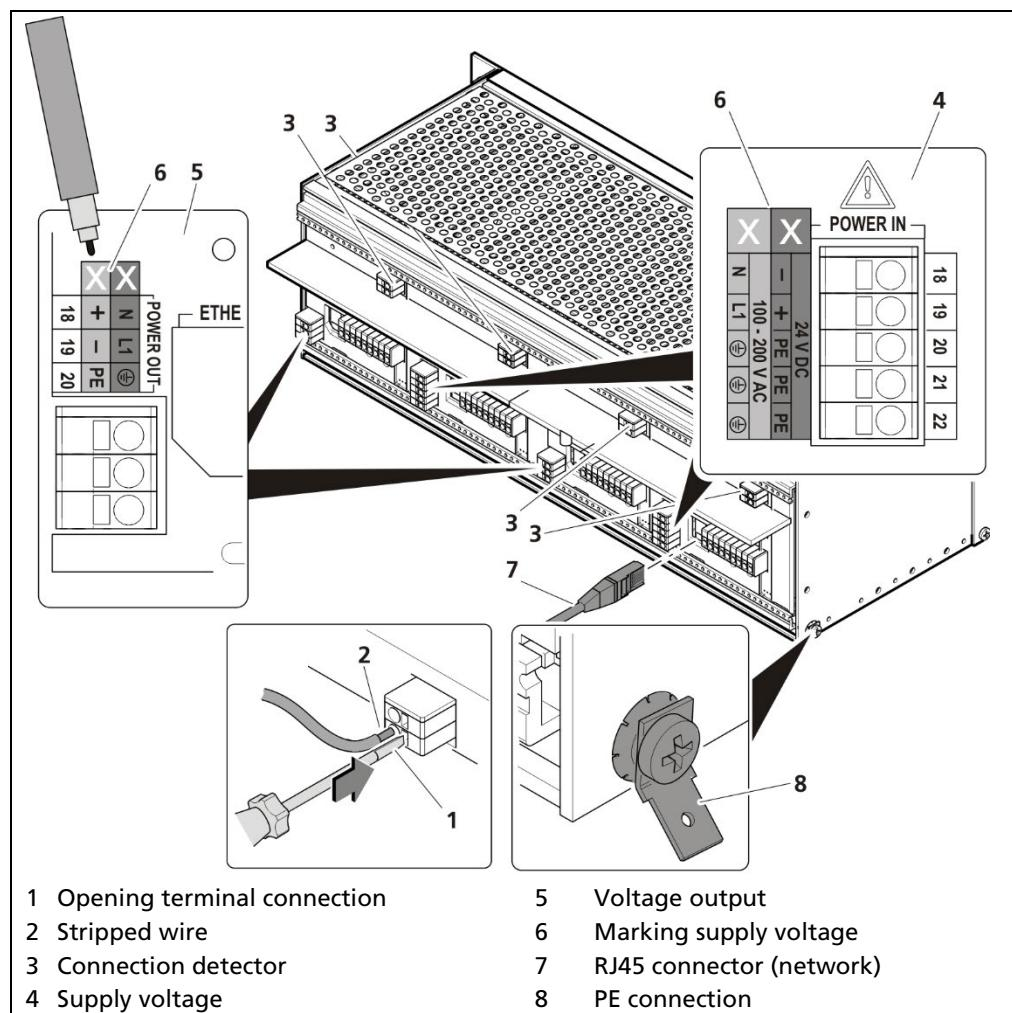

Fig. 19 Electrical connection in the 19" subrack
Prior to initial start-up, the voltage range (Fig. 19, item 8) must be marked with chemical resistance on all input and output terminals!
The terminal board master/slave is used twice (Fig. 19, item 2) for the variant to install 2 master EVUs and 6 slave modules.
The terminal board master/master (Fig. 19, item 1) is used twice for the variant to install 4 master EVUs.
Apply the voltage of the specified and marked (Fig. 19, item 6) range only!
2. Label the voltage range permanently and chemically (Fig. 19, item 6).
4. Open the terminal connection (Fig. 19, item 1) with an operating tool (slopped screwdriver) and insert the stripped wire (min. 8 mm) (Fig. 19, item 2). The terminal connection closes by pulling out the operating tool. The terminal connections are designed for the flexible wires:
5. Plug the network plug into the RJ45 socket (Fig. 19, item 7) (optional).
6. Check the correct connection of the PE conductor (Fig. 19, item 8).